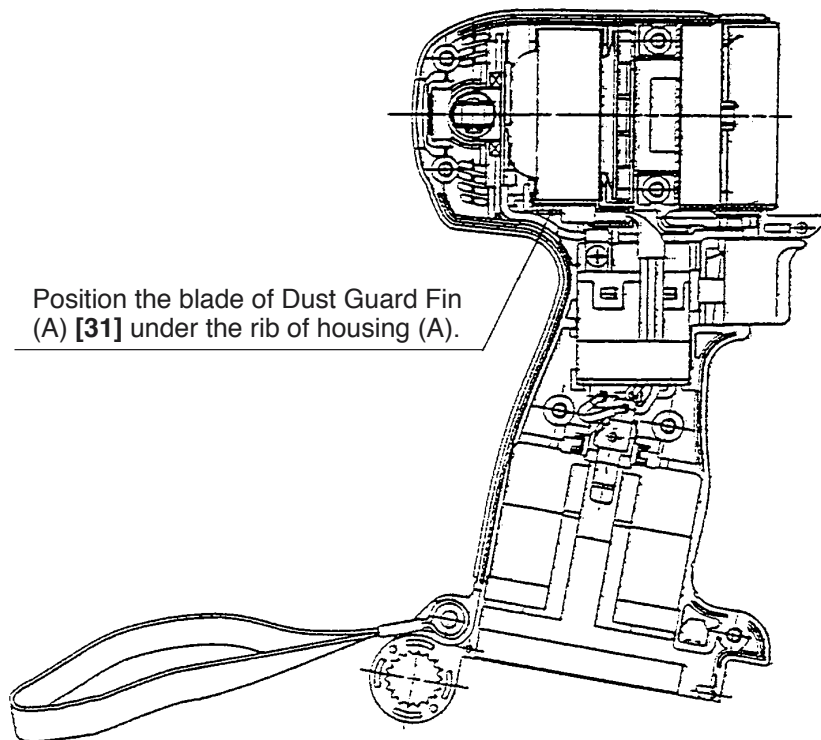

Fig. 11
- (c) Mount a unit of Inner Cover (A) [27] (including the Armature DC 12V [28]), Magnet (D) [30] (including Dust Guard Fin (A) [31] and Side Yoke [29]) and Brush Block [32] into housing (A) (see Fig. 11). Pay attention to the following items.
(Note) The temperature of the FET may be high if the silicone grease is not applied. Make sure that the three internal wires from the FET are bent as shown in Fig. 11 and passed above the DC-Speed Control Switch [43] to keep from contact with Pushing Button (A) [44] (see Fig. 11).
- (2) Mount housing (B) and secure with seven Tapping Screws (W/Flange) D4 x 20 (Black) [35]. Insert Sleeve (A) [48] into the Strap (Black) [47] and tighten the Machine Screw (W/Washers) M4 x 25 [49].